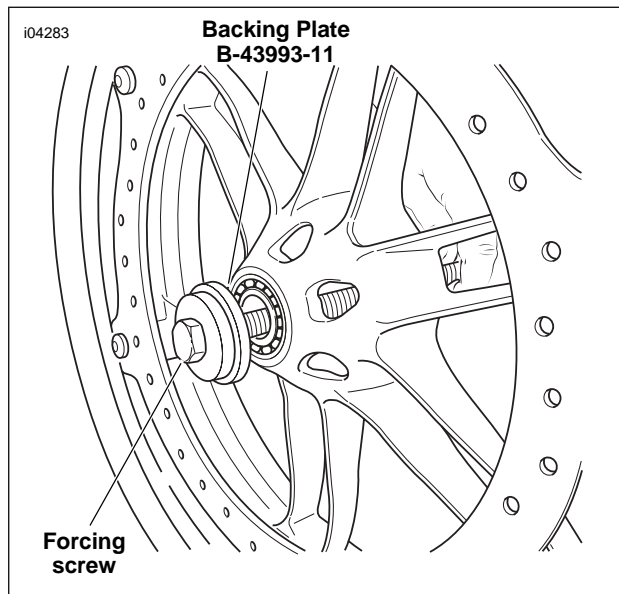

Figure 2-15. Insert Forcing Screw and Backing Plate
8. See Figure 2-15. Remove the Backing Plate (B-43993-11) from the long forcing screw. Reinstall the Backing Plate onto the forcing screw, with the smaller diameter toward the hex-head.